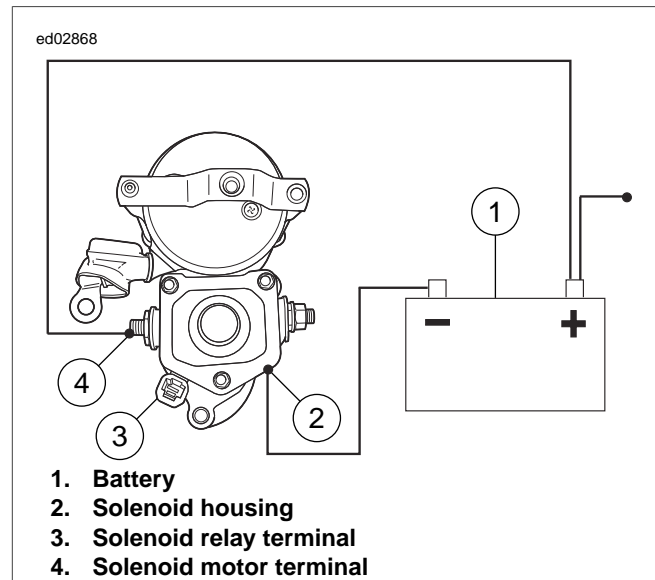

Figure 1-11. Return Test
1. See Figure 1-11. With test leads still connected in the manner specified at the end of the previous 1.6 TESTING